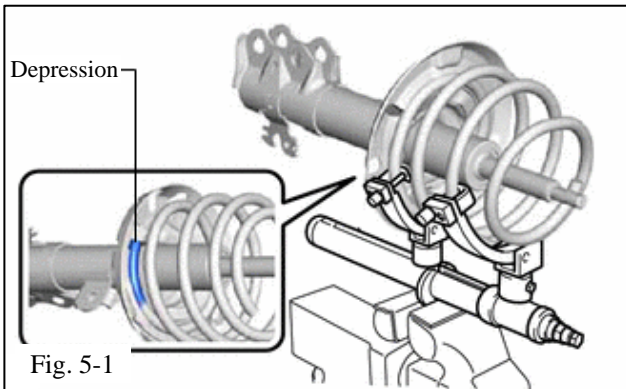

Fig. 5-1
- (a) Install the front TRD spring (Fig. 5-1).
- (1) Fit the end of the front coil spring that has the larger diameter into the depression of the front lower coil spring insulator.
- (2) Align the end of the front coil spring with the flange of the front lower coil spring insulator and install the front coil spring.